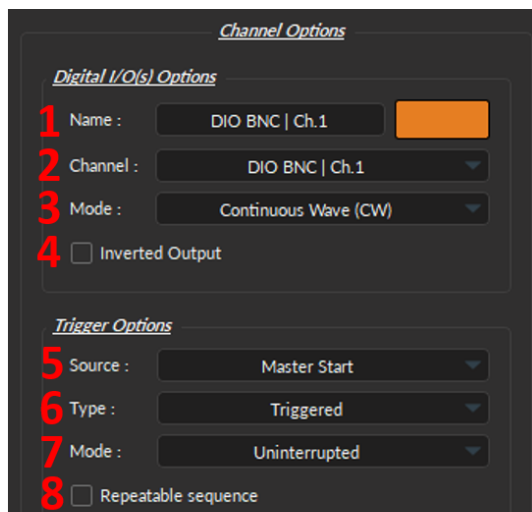
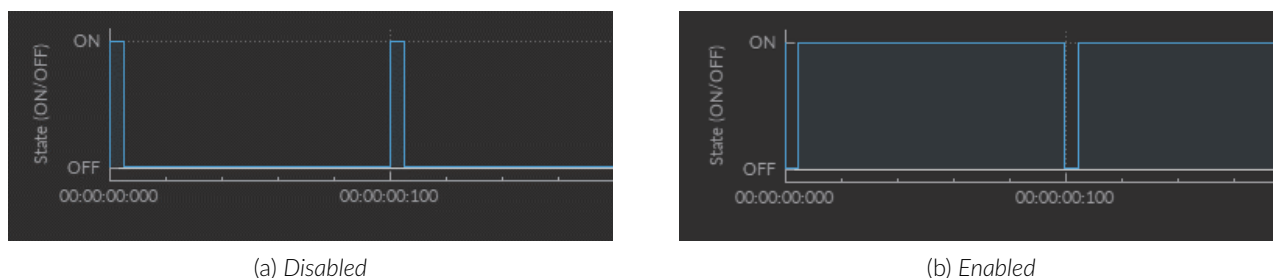

Figure 15.24: Digital I/O, Channel Options
Figure 15.26: *Inverted Output*
1. The **Channel Name** textbox (Fig. 15.24, 1) is used to give the new channel a more intuitive / experiment-relevant label. The **Channel Name** is used in the **Graph List** to identify the channel. And the **Color Selector** specifies the trace color used for the channel in the **Graph View**.
2. The **Channel** (Fig. 15.24, 2) identifies the channels available to create a Digital I/O. The channel can be changed by selecting a new one from the drop-down list. Each numbered channel on the physical BBC300 corresponds to the same number of the digital channel within the software.
3. The **Mode** (Fig. 15.24, 3) identifies the type of signal sent (for output channels) or the way the signal is measured (for input channels). Three modes are available:
4. The **Inverted Output** checkbox (Fig. 15.24, 4), when enabled, will convert every 0 to 1 and 1 to 0, such as in Fig. 15.26.
5. The **Source** trigger option (Fig. 15.24, 5) specifies the element that will set off the digital output. Two options are available:
6. The **Type** (Fig. 15.24, 6) defines how the trigger activates a sequence. This includes input sequences, which can be triggered/gated by an outside source.
7. The **Mode** (Fig. 15.24, 7) defines how the sequence will run if a second TTL pulse is received before the sequence ends. This includes input sequences, which can be triggered/gated by an outside source. Four options are available:
8. The **Repeatable sequence** checkbox (Fig. 15.24, 8), when enabled, will run the sequence when additional TTL pulses are received (Fig. 15.28).
The parameters contained in the **Sequence Options** depend on the **Channel Mode** (selected in **Channel Options**, Fig. 15.24), as following: